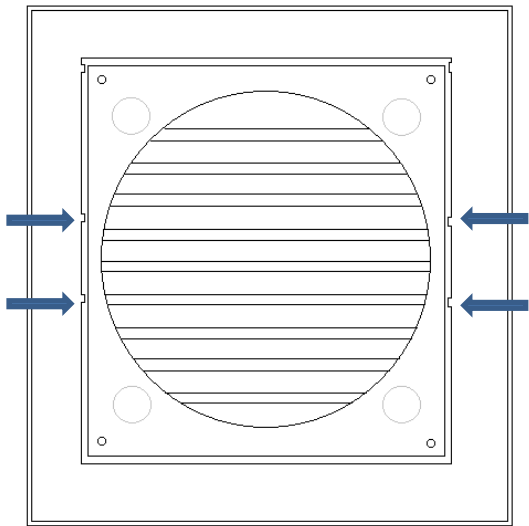

Fig.3
2. Carefully unclip the grille plate from the back plate by pushing in the clasps that are located on the reverse of the grille either side the spigot, avoiding damage to the louvres – see Fig.3 below.